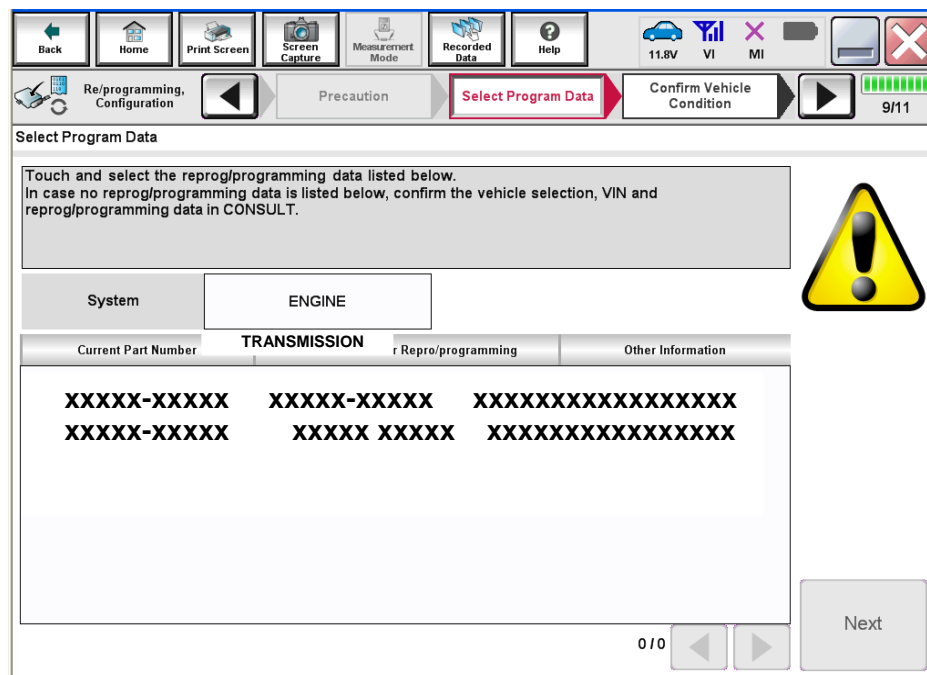

Figure 12A
- If more than one new P/N is available, the screen in Figure 12A displays.